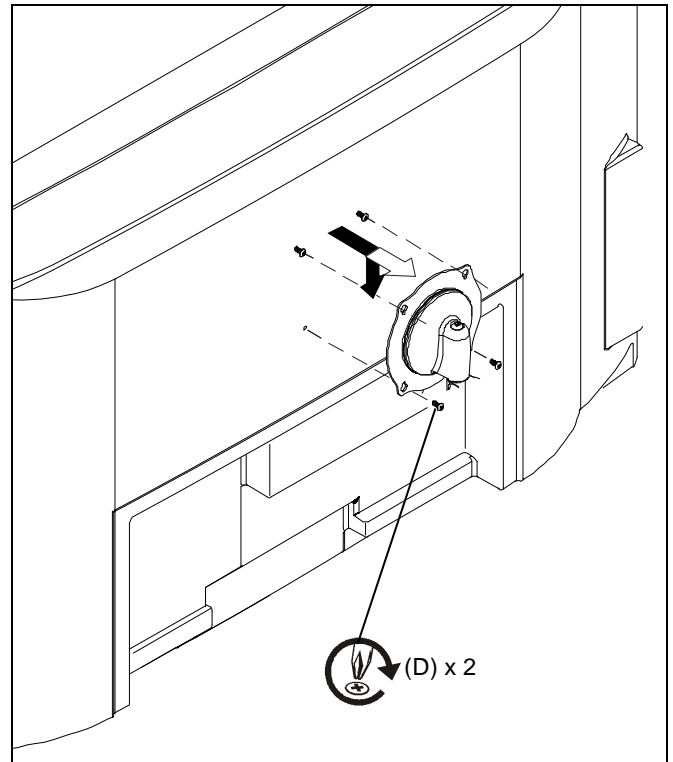

Figure 8
3. Place two screws in display into upper teardrop mounting holes in display mounting plate and lower display until screws are seated in lower area of teardrop mounting holes. (See Figure 8)
4. Install two screws (D) through display mounting plate and into lower mounting holes in display back. (See Figure 8)